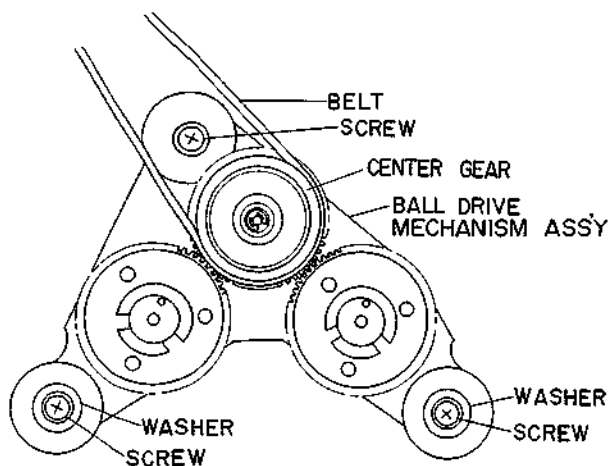

Fig. 5.4 Ball Drive Mechanism Ass'y Replacement
- (3) Referring to Fig. 5.4, remove the belt driven by the reel motor from the groove of the center gear. And remove three sets of screws and washers which fix the ball drive assembly to chassis. Detouch the brake assembly that holds the drum of ball drive assembly, and then remove the ball drive assembly.
- (4) Replace with a new ball drive assembly.
- (5) Mount the belt driven by the reel motor on the groove of center gear. Check to insure that the belt is clean and placed in a correct position.
- (6) Use care to prevent the shut-off belt from interfering with cassette holder assembly. Be sure that the belt is clean, and is placed in a correct position. Make sure not to stick grease on the counter belt. In case grease is stuck on the counter belt, clean it off with an alcohol-dipped cloth.
- (7) Without loading a cassette tape, check to insure that the reel hub on supply side and that on take-up side are stopped, respectively in F.F. mode and rewind mode. (In case either one or both of them is not stationary, replacement of ball drive assembly will be necessary.)
- (8) Loading the torque gauge in the cassette well assembly, check that F.F. and rewind torque are in a range of 50 to 55 g-cm. After mounting the flywheel assembly, capstan belt and flywheel holder, check to see that take-up torque is in a range of  $40 \pm 5$  g-cm. In case these values are not achieved, adjustment should be made following the "5.1.2. Adjustment."